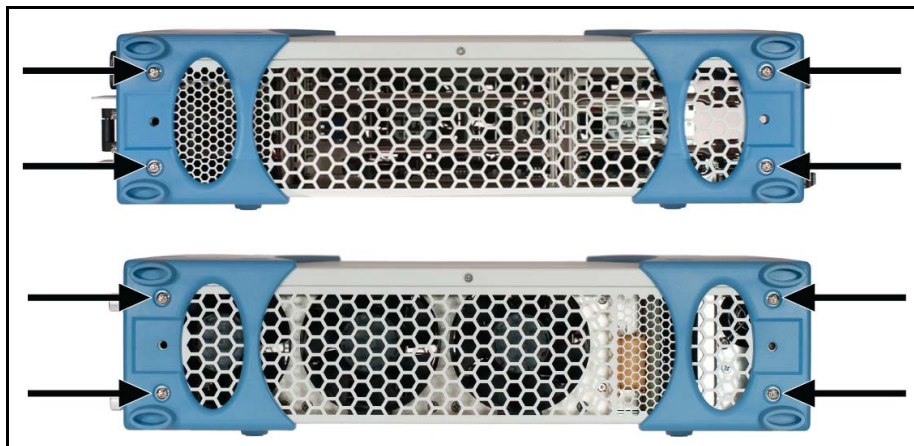

Figure 2 . Removing the Chassis Bumpers
- 2 Remove the four #2 Phillips screws from each side of both bumpers. See Figure 2.